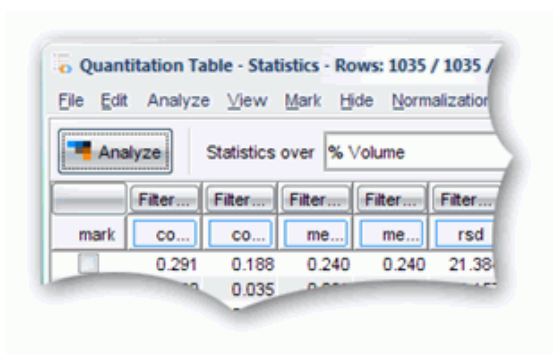

Figure 5.51.: Start analysis from the Quantitation Table
- Press the Analyze button in the top left of the Statistics Table (fig. 5.51 on page 90). A new analysis window is opened, containing the current expression profiles in a heat map display.